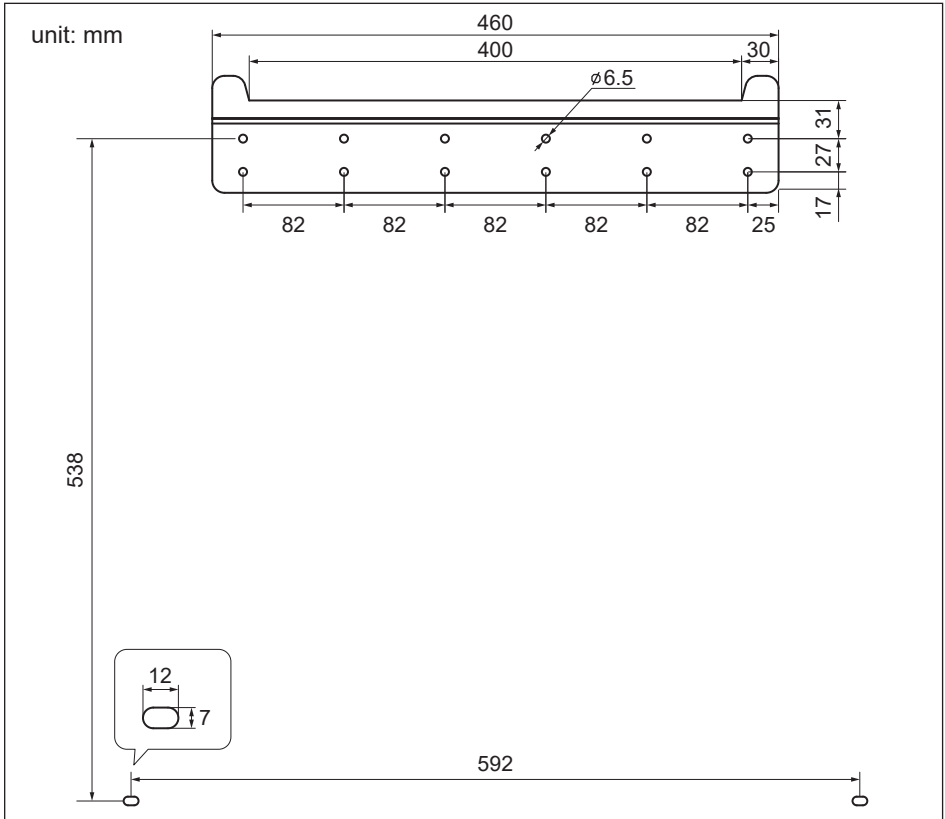

Figure 3-4: Mounting bracket dimensions
Refer to **Figure 3-4** to **Figure 3-9**.
2. Orient the wall bracket (**Figure 3-4**) horizontally (perpendicular to the floor).